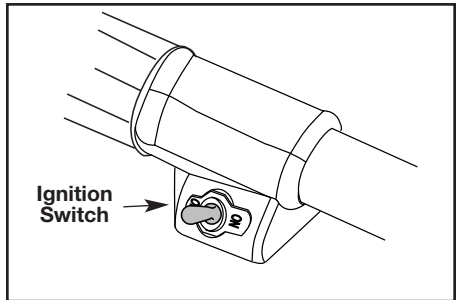

Fig. 5
2. Put the **IGNITION SWITCH IN THE "ON" POSITION** (Fig. 5).
10. To stop the engine, put the **IGNITION SWITCH IN THE "OFF" POSITION** (Fig. 5).